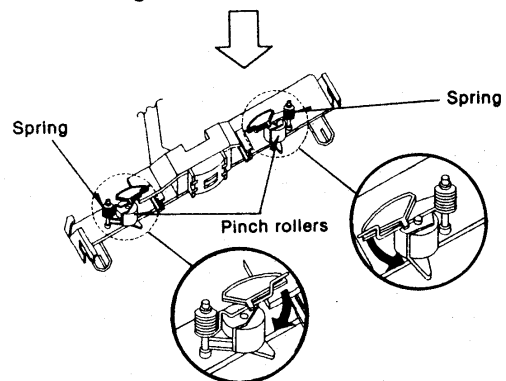

Fig. 7
5. Remove 2 springs in order to remove the pinch roller. (See Fig. 7.)